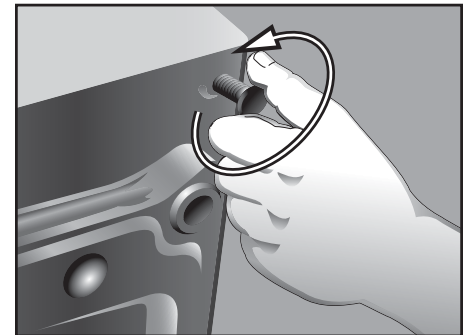

Figure 3
7. Remove and discard the feet originally installed in the washer/dryer (see **Figure 3**). **DO NOT** reinstall these feet into the pedestal.